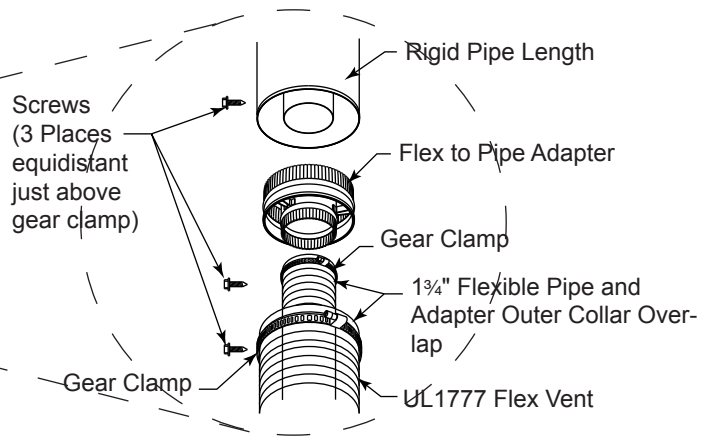

**Figure 39 -
2. Review *Figure 39* and corresponding instructions for proper overlap, clamp and screw placement.